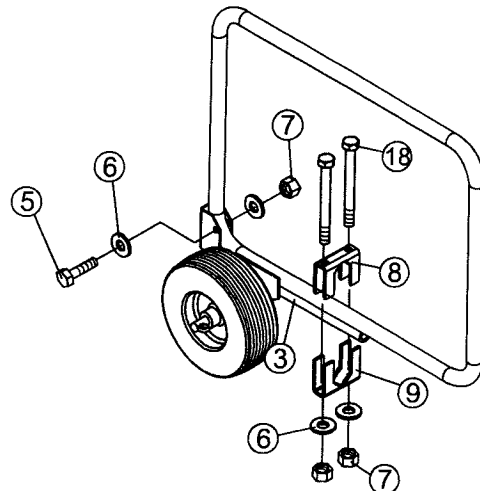

Figure 2. Securing Axle Mount to the Frame
2. Turning your unit on its side, or while having a second person lifting the side in the air, place the axle mount under the frame tubing on the side of the unit as shown in Figure 2.